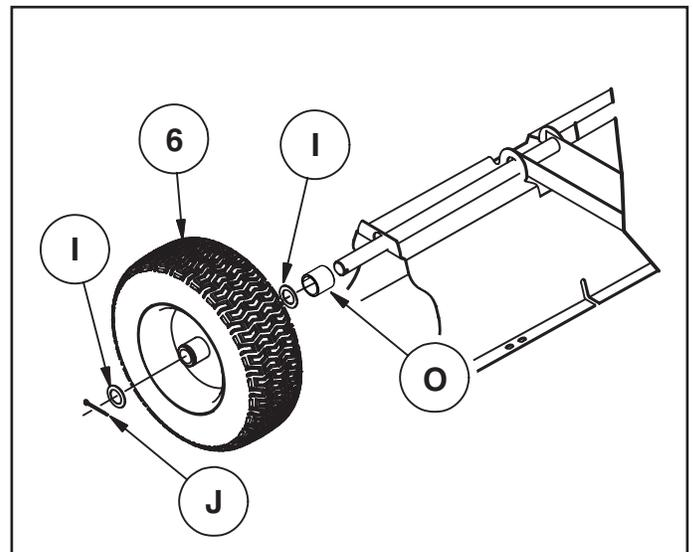

FIGURE 5
STEP 5: (SEE FIGURE 5)
- Assemble a spacer (O), a washer (I), a wheel (6) with the valve stem facing out, and another washer (I), onto the axle. Secure by inserting a cotter pin (J) through the hole in the axle and spreading the ends. Repeat for other wheel.